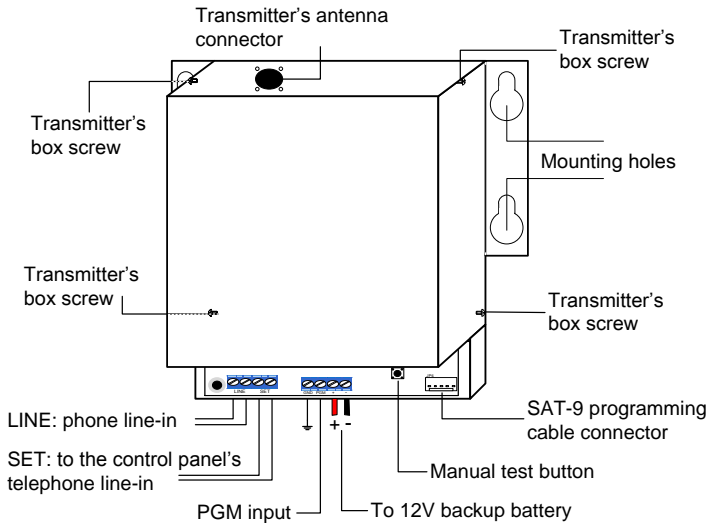

Figure 3. The SAT-9 diagram
1. Mount the SAT-9 on a designated surface (not further than 10 meters from the Alarm System) using the four supplied screws (see Figure 3);
1. Remove the four fastening screws of the transmitter’s cover and take it off. See Figure 3 on page 6.